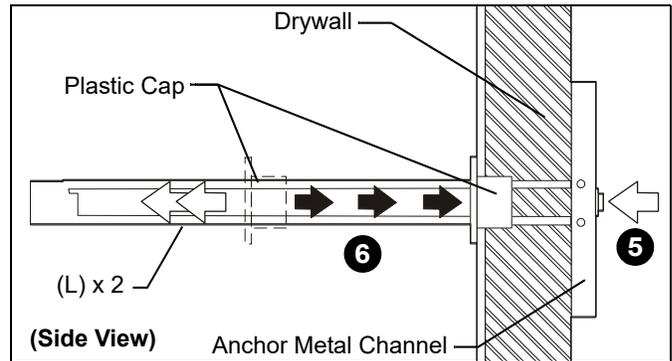

Figure 23
5. Holding plastic straps on drywall anchor (L), pull anchor away from wall until channel rests flush behind wall. (See Figure 23)
6. Slide plastic cap on anchor (L) towards wall until flange of cap is flush with wall. (See Figure 23)